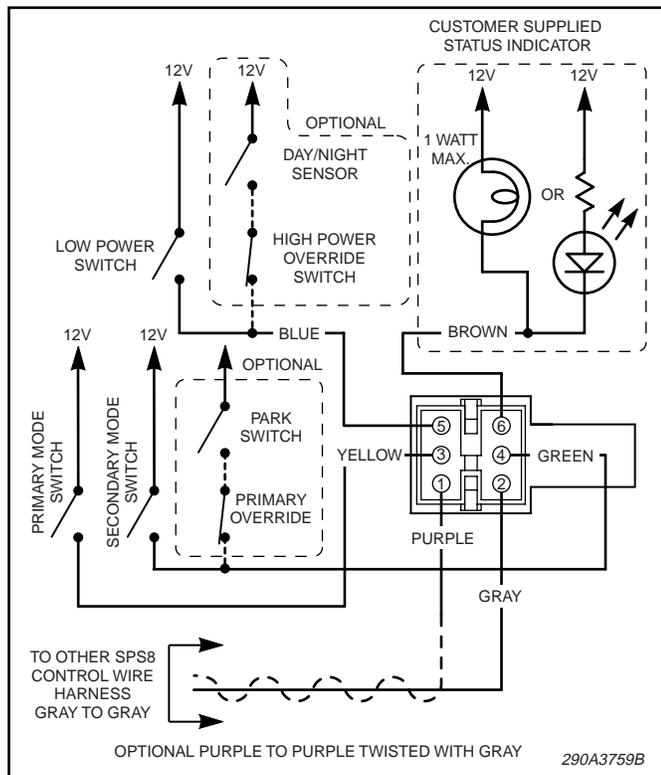
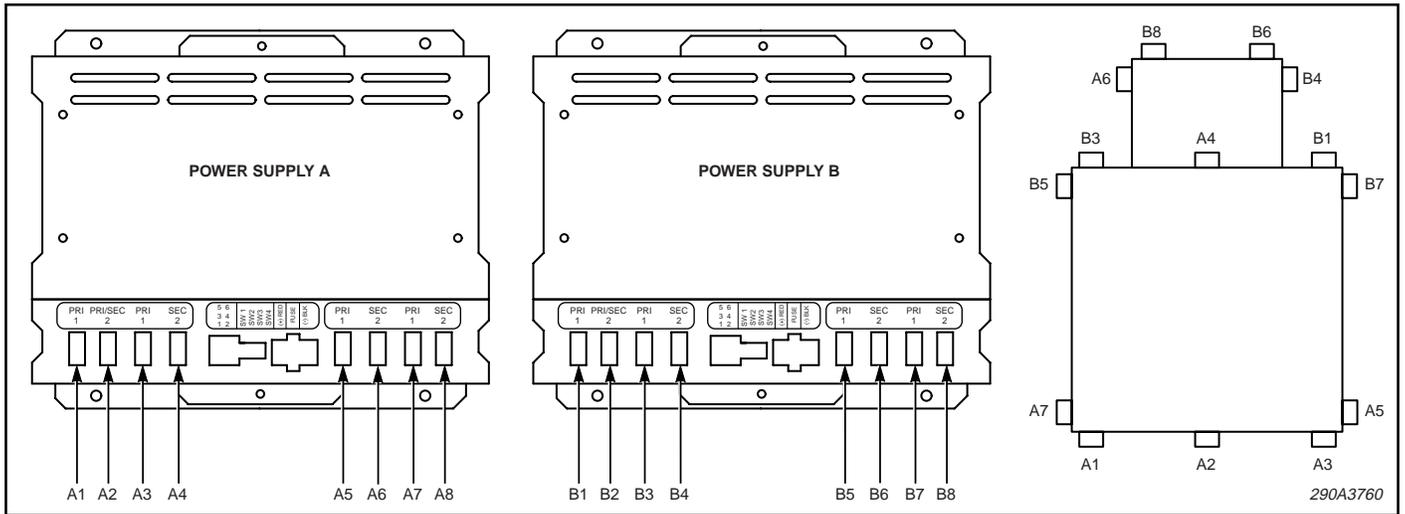

Figure 3.
Figure 4.
4. See figure 3 for control wire harness connections.
5. Connect strobe head outlets to strobe head cables while noting proper configuration per vehicle application. See figure 3. Ensure that all strobe head cable's shields are grounded at the SPS8 cover. Allow for a drain loop and maintenance. If configuring the system to meet minimum KKK specifications, see figure 4 for suggested strobe head connections.